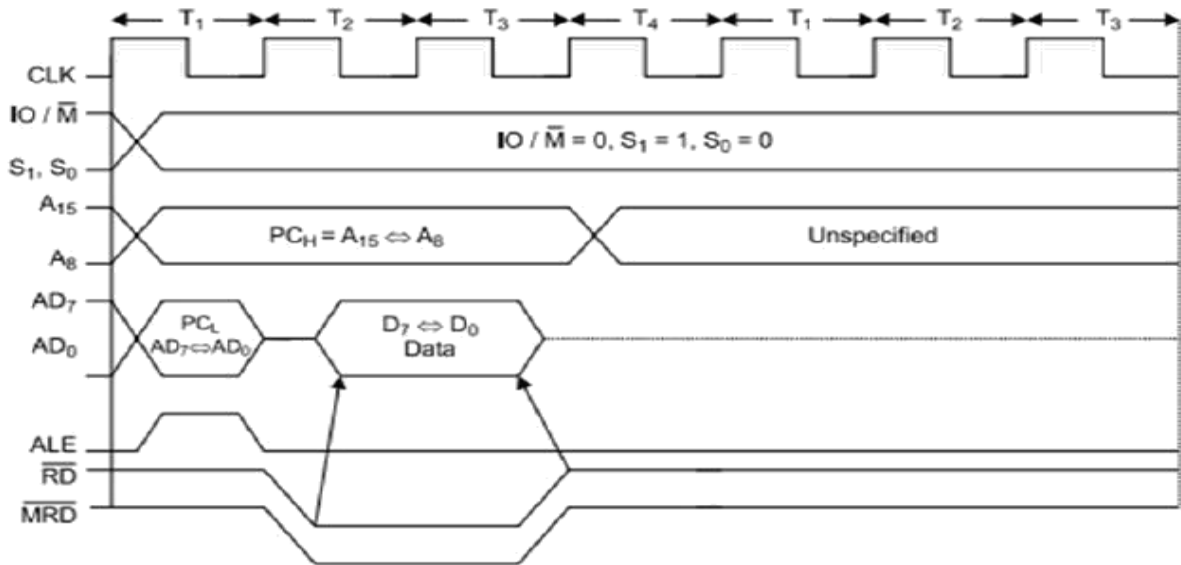

Fig 11. Memory read timing diagram
- During T1, A8-A15 contains higher byte of address. At the same time ALE is high. Therefore Lower byte of address A0-A7 is selected from AD0-AD7 as shown in fig 11.